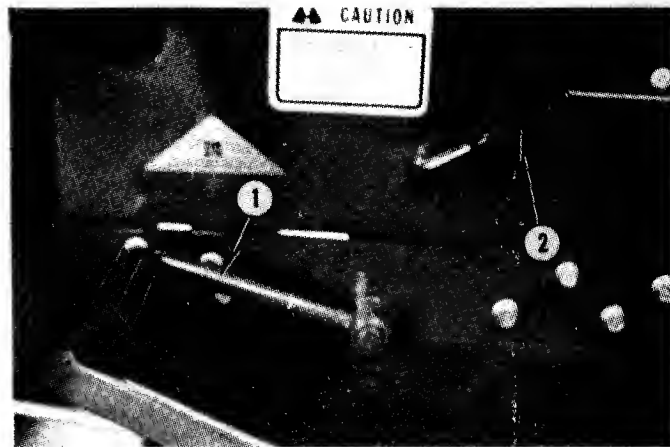

FIG. 3.15--1600 CLUTCH/BRAKE PEDAL ENGAGED
1. Depress clutch-brake pedal, No. 1, Fig. 3.15, and engage parking brake lever, No. 2.